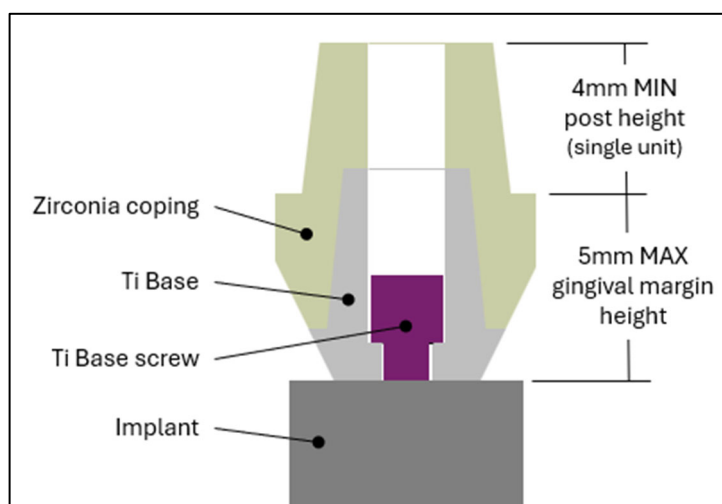

Figure 2 – Zirconia coping (superstructure) design limitations
- 5mm maximum gingival margin height. (refer to **Figure 2**)
- Abutments with a post height less than 4.0 mm are intended for multi-unit restorations only. (refer to **Figure 2**)